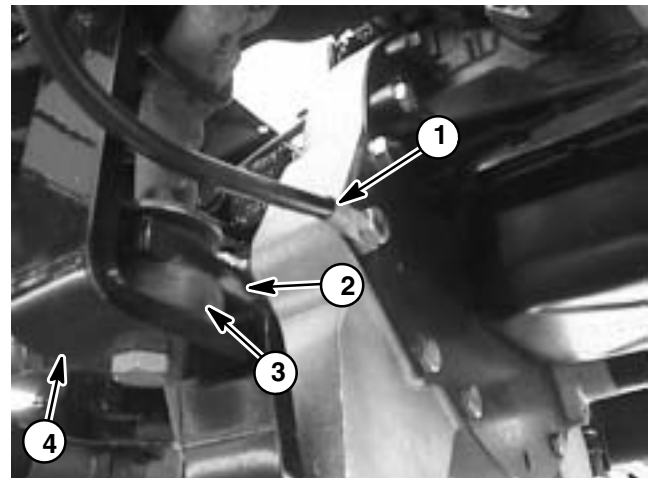

Figure 17
C. Remove lock nut that secures ground cable to bell housing on engine (Fig. 17). Locate and retrieve lock washer located between cable end and bell housing.
13. Remove lock nuts, washers, and cap screws securing the engine brackets and motor mounts to the machine frame (Fig. 17).
5. Using a hoist or lift, slowly raise engine assembly from under machine and position to frame. Insert cap screws through frame, motor mounts and engine brackets from below (Fig. 17). Install washers and lock nuts on cap screws. Do not fully tighten lock nuts.
C. Position lock washer between ground cable end and bell housing. Secure ground cable to engine bell housing with lock nut (Fig. 17).